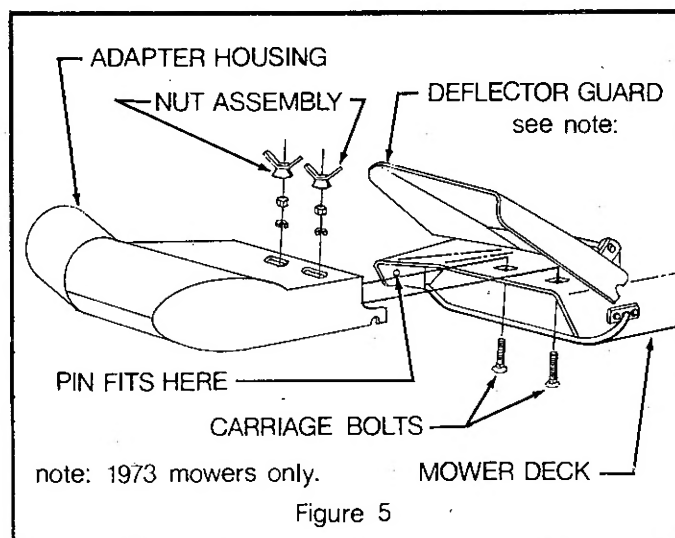

Figure 5
9. Install the hose extension in the other end of the 7" hose. Secure with the other large hose clamp and one 1/4-20 x 2" machine screw, lockwasher and hex nut (Figure 5).
12. Slide the hose extension over the adapter discharge pipe (Figure 5).